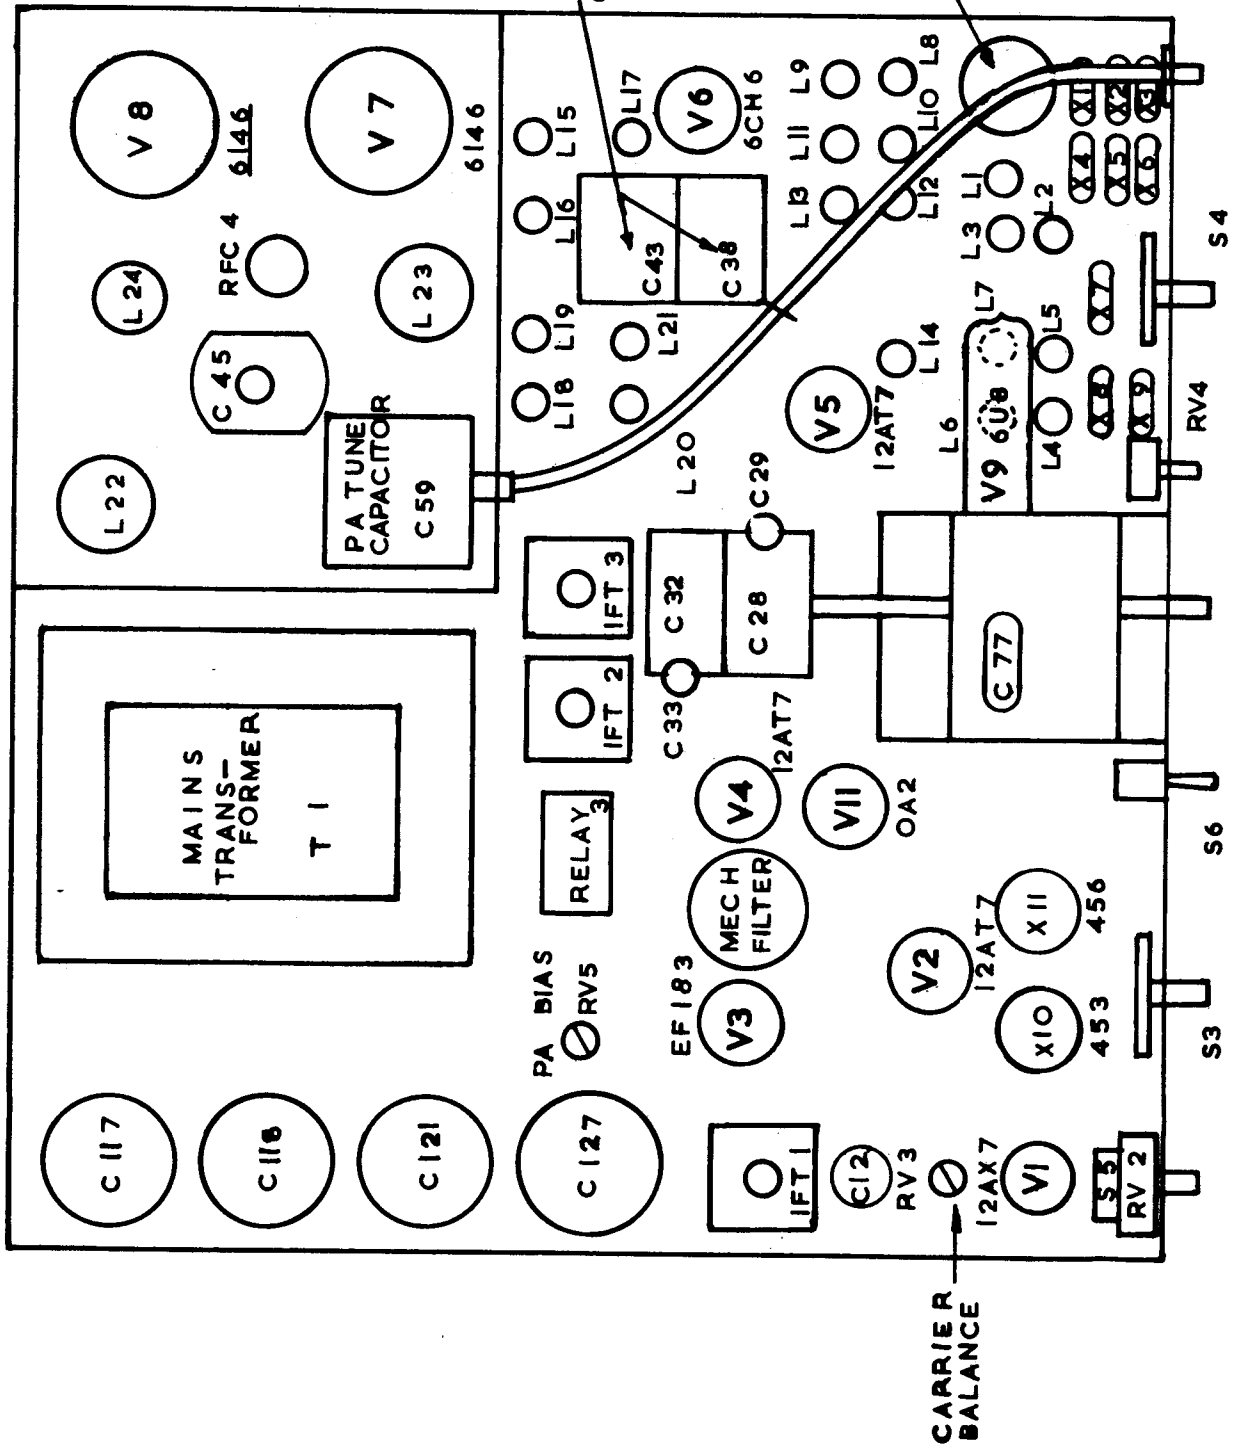

FIG 6-4 LOCATION OF TUBES & CRYSTALS
5. Check the tracking of the VFO at each 100 KHz point. If it is over tracking at 3.5 MHz reduce capacity of C77 (See Fig. 6-4 for location) by inserting a probe through the hole in the top of the VFO and turning the concentric trimmer anticlockwise.